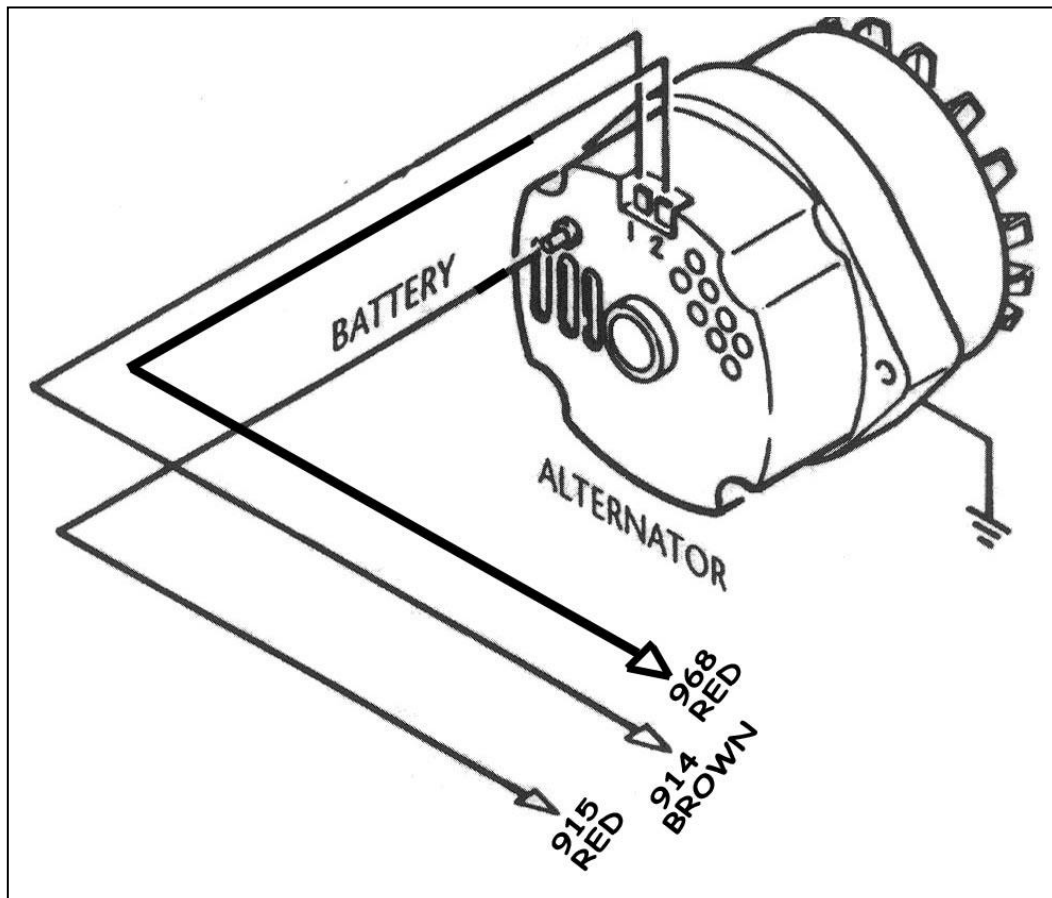

Figure 7.2 Late GM Alternator – Internal Regulator
7.2 LATE GM ALTERNATOR (AFTER 1972) – INTERNAL REGULATOR. (SEE FIGURE 7.2)